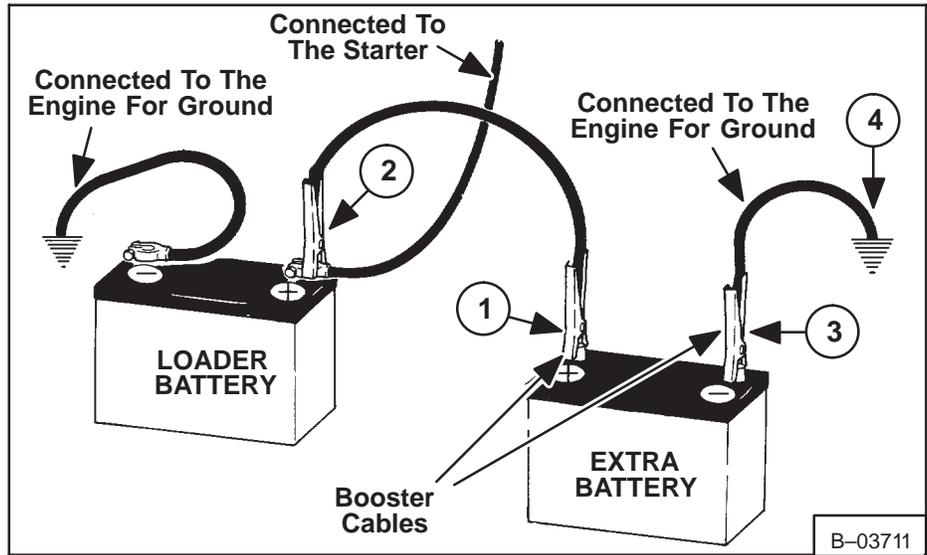

Fig. 1-29 Connecting the Extra Battery
5. Connect the end of the first cable to the positive terminal (+) of the booster (Fig. 1-29, Item 1). Connect the other end of the same cable to the positive terminal (+) of the loader battery (Fig. 1-29, Item 2).
6. Connect the end of the second cable to the negative terminal (-) of the booster battery (Fig. 1-29, Item 3). Connect the other end of the second cable to the engine (Fig. 1-29, Item 4). DO NOT connect the cable directly to the negative terminal (-) of the loader battery. Connecting the cable directly to the battery can cause a spark and destroy the battery and cause personal injury.
9. After the engine has started, remove the cable connected to the engine (Fig. 1-29, Item 4).
10. Then remove the cable from the loader battery post positive terminal (+) (Fig. 1-29, Item 2).